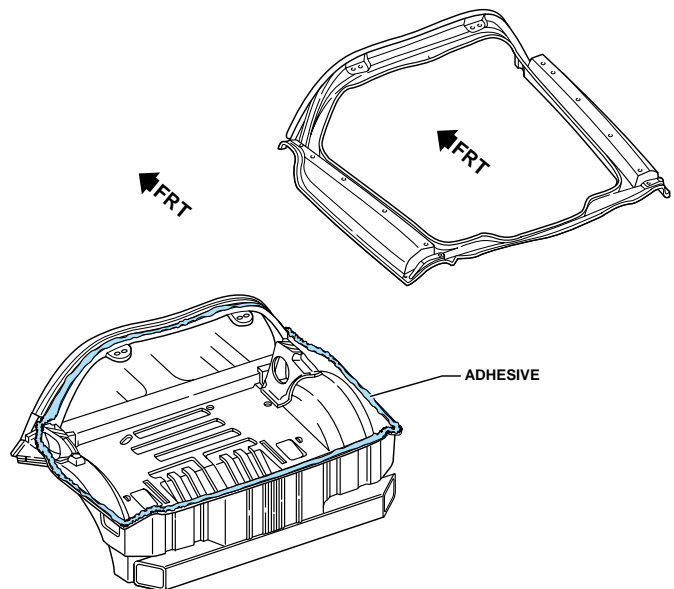

**Fig. 3.66 — Adjust Rear Surround Using Adhesive Bead 1mm ≤ 7mm In Thickness**
- 2 Temporarily assemble rear end of vehicle to check alignment with the doors. This includes installation of the quarter-panels, roof bow cover, and rear hatch. Place shims as necessary to achieve proper panel alignment and establish adhesive thickness (Fig. 3.66).